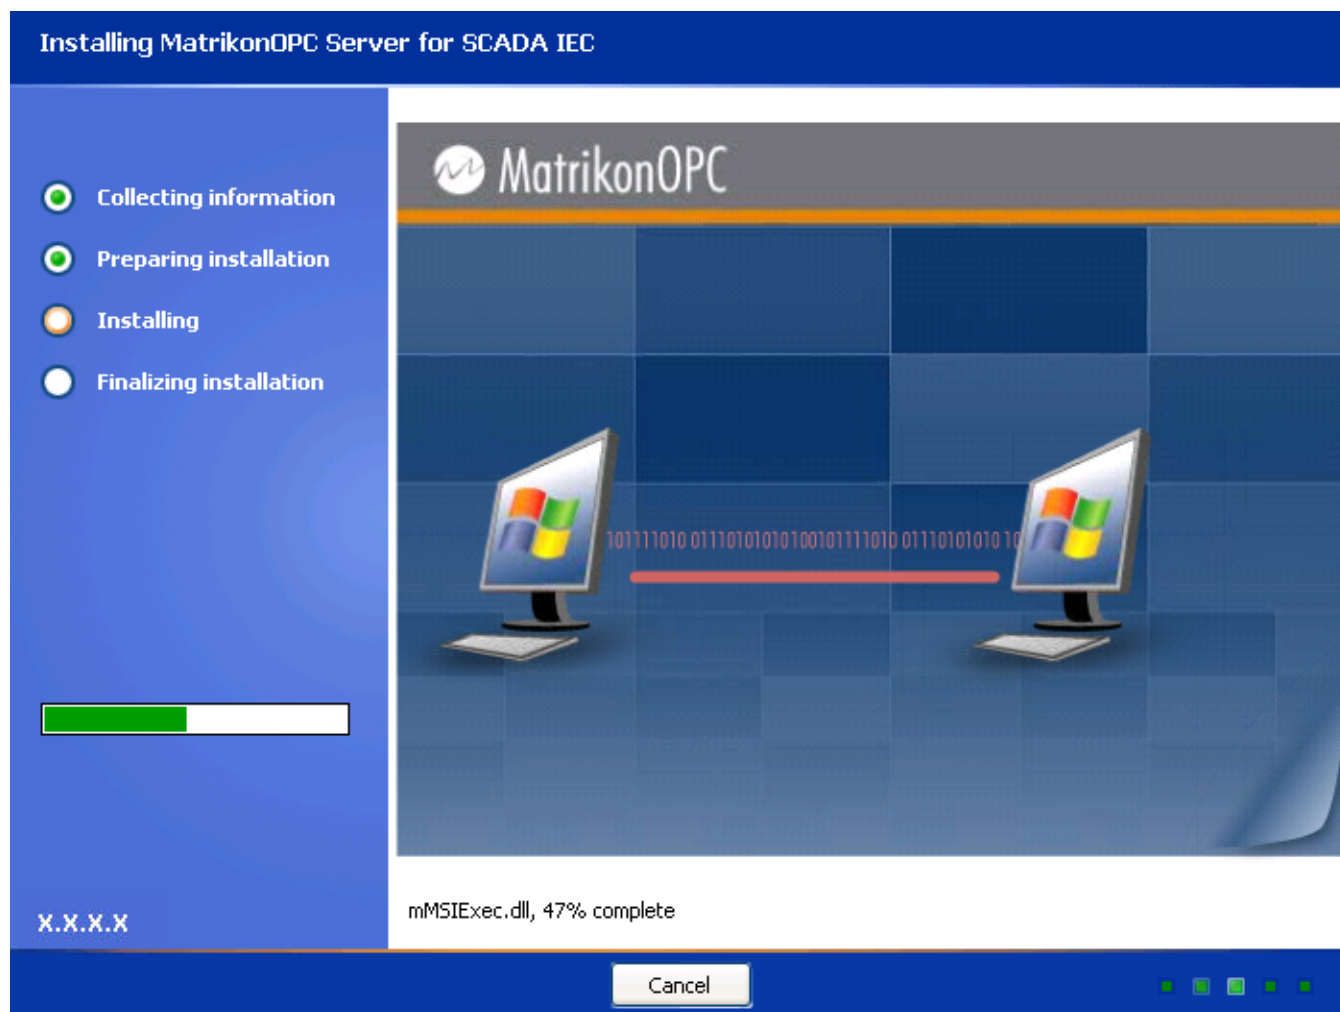

Figure 9 - Installing MatrikonOPC Server for SCADA IEC Screen
16. Click on the **Next** button. The **Installing MatrikonOPC Server for SCADA IEC** screen (Figure 9) appears, installation begins, and the product files are copied to the computer.